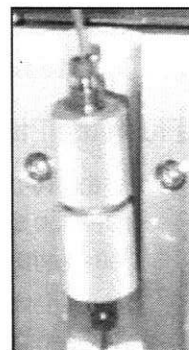

Figure 3-5: Inserting Holder into Cartridge Block
4. Place the cartridge holder inside the cartridge block, taking care to rest the solvent lines in the grooves. See Figure 3-5.